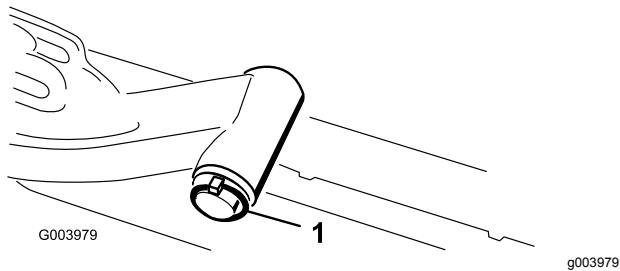

**Figure 10**
8. For the front cutting units, slide a cutting unit under the lift arm while inserting the carrier-frame shaft up into the lift-arm-pivot yoke (**Figure 10**).
- B. Insert the lift-arm yoke onto the carrier-frame shaft (Figure 10).